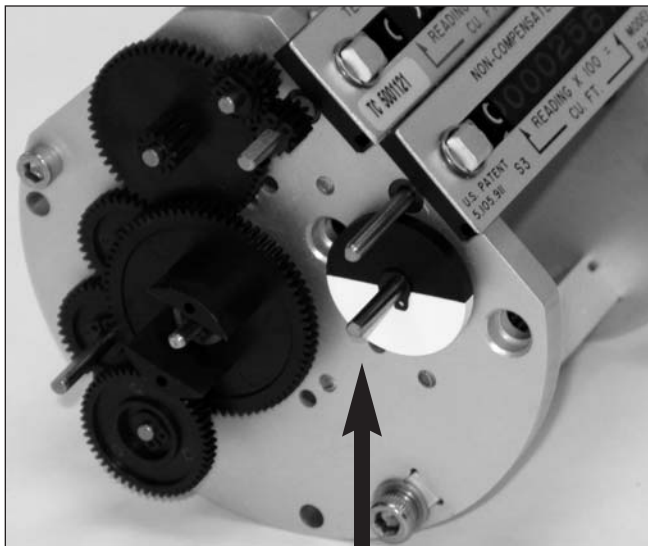

Figure 16 - Movement of the RPM wheel indicates impeller rotation.
- b) Partially open the meter inlet gas valve until the meter starts operating at low speed. Throttling the bypass valve may be necessary to initiate gas flow through the meter. Verify gas is flowing through the meter by watching for movement of the black-and-white RPM wheel on the Accessory Unit. The wheel shown in *Figure 16* is visible from either the front or the side of the Lexan® cover. If movement is present, go to Step c). If the RPM dial is not turning, verify gas is being delivered to the meter. If gas is flowing to the meter inlet and the RPM wheel is not moving, go to Step e).